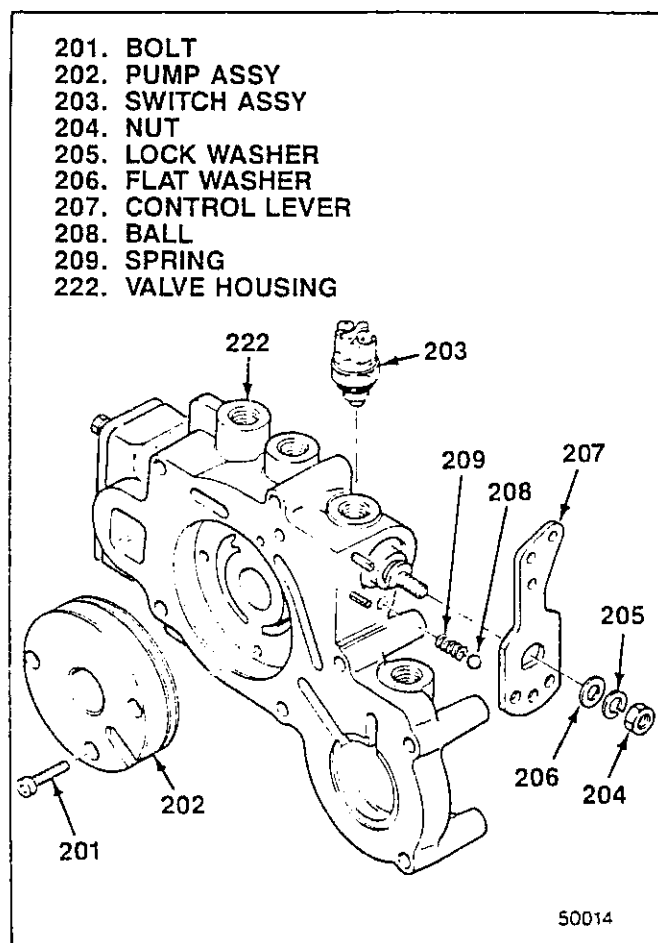

Figure 5-10. Control Lever, Switch and Pump
**5-14. CONTROL LEVER, SWITCH AND PUMP ASSEMBLY.** With control valve installed in valve housing, proceed as follows (see figure 5-10):
1. Temporarily install control lever (207) on control valve previously installed, aligning flats. Turn lever and valve up to installed position as shown in figure 5-10. Remove control lever.
2. Install spring (209), ball (208) and control lever (207). Holding control lever in place, install flat washer (206), lock washer (205) and nut (204). Holding lever, torque nut to 14-16 lb-ft (19-22 Nm).
3. Install switch assembly (203). Torque switch assembly to 20-25 lb-ft (27-34 Nm).
4. Position pump assembly (202) in valve housing (222) with counterbored holes for bolt head out. Align all three bolt holes and install bolts (201). Torque bolts to 6-8 lb-ft (8-11 Nm).